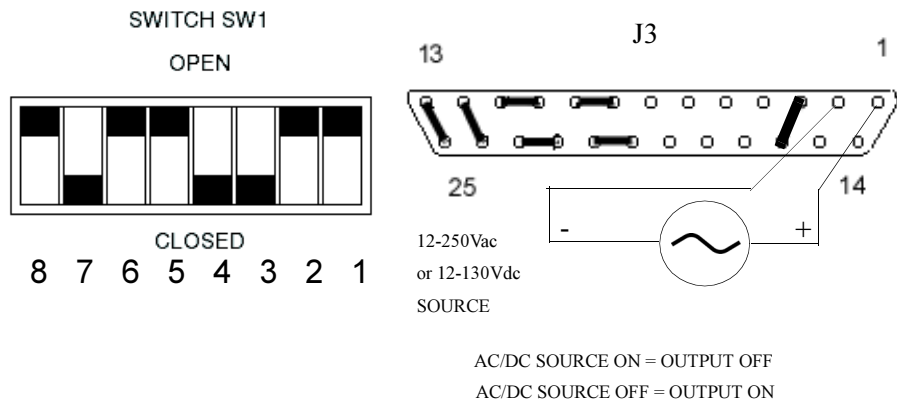
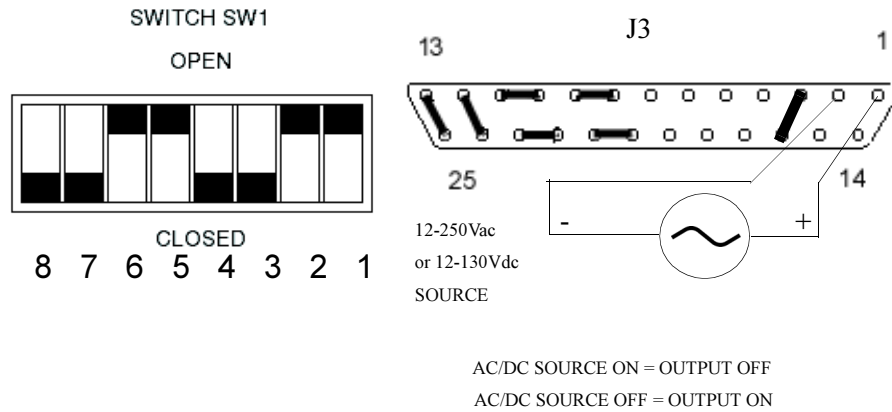

Figure 3.17 Using Shutdown with an AC or DC Input (Positive Logic)
Figure 3.18 Using Shutdown with an AC or DC Input (Negative Logic)
1. Turn off the power supply and disconnect the AC power source. Allow five (5) minutes to elapse to dissipate stored energy before making connections or resetting switches.
2. Connect the AC or DC source to pin 1 (positive) and pin 2 (return) on the J3 connector on the rear panel. See Figure 3.17 and Figure 3.18.